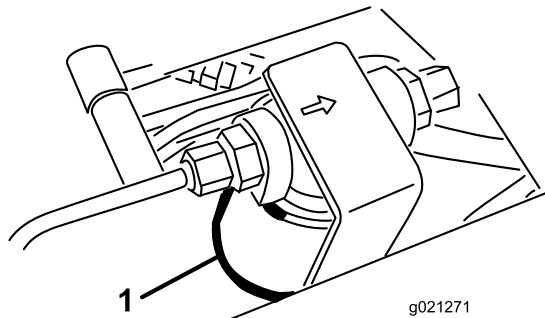
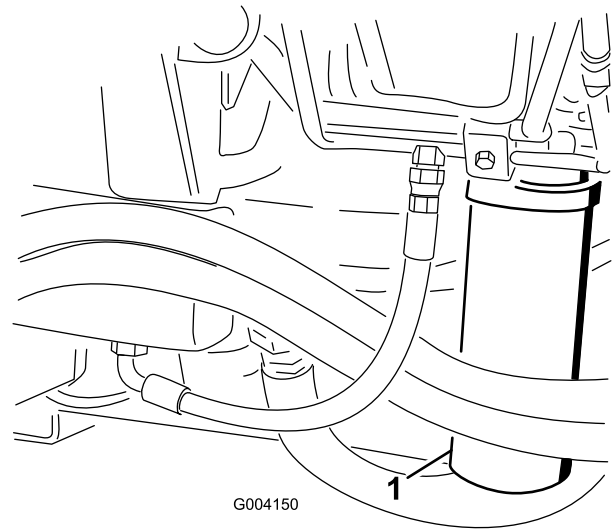

Figure 65
Figure 66
2. Clean the area around the filter mounting area and place a drain pan under the filter (Figure 65) and (Figure 66).